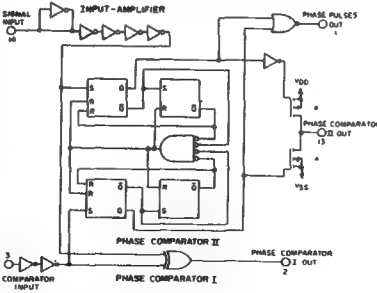
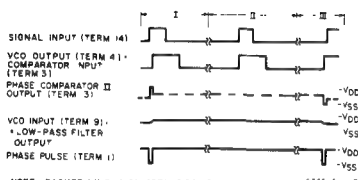
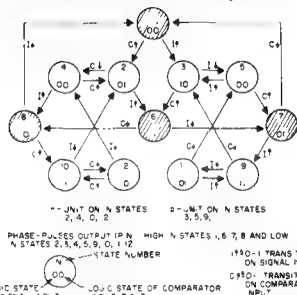

Fig. 3—Schematic of COS/MOS PLL phase-comparator section.
Fig. 6—Typical waveforms for COS/MOS phase-locked loop employing phase-comparator II in locked condition.
Fig. 7—State diagram of phase-comparator II.
Most PLL systems utilize a balanced mixer composed of well-controlled analog amplifiers for the phase-comparator section. Analog amplifiers with well-controlled gain characteristics cannot easily be realized using COS/MOS technology. Hence, the COS/MOS design shown in Fig. 3 employs digital-type phase comparators. Both phase comparators are driven by a common-input amplifier configuration composed of a bias stage and four inverting-amplifier stages. The phase-comparator signal input (terminal 14) can be direct-coupled provided the signal swing is within COS/MOS logic levels [logic 0 < 30% (VDD-VSS), logic 1 > 70% (VDD-VSS)]. For smaller input signal swings, the signal must be capacitively coupled to the self-biasing amplifier at the signal input to insure an over-driven digital signal into the phase comparators.
Phase-comparator II is an edge-controlled digital memory network. It consists of four flip-flop stages, control gating, and a three-state output circuit comprising p and n drivers having a common output node as shown in Fig. 3. When the p-MOS or n-MOS drivers are ON, they pull the output up to V_{DD} or down to V_{SS} , respectively. This type of phase comparator acts only on the positive edges of the signal- and comparator-input signals. The duty cycles of the signal and comparator inputs are not important since positive transitions control the PLL system utilizing this type of comparator. If the signal-input frequency is higher than the comparator-input frequency, the p-MOS output driver is maintained ON continuously. If the signal-input frequency is lower than the comparator-input frequency, the n-MOS output driver is maintained ON continuously. If the signal- and comparator-input frequencies are the same, but the signal input lags the comparator input in phase, the n-MOS output driver is maintained ON for a time corresponding to the phase difference. If the signal- and comparator-input frequencies are the same, but the signal input leads the comparator input in phase, the p-MOS output driver is maintained ON for time corresponding to the phase difference. Subsequently, the capacitor voltage of the low-pass filter connected to this type of phase comparator is adjusted until the signal and comparator input are equal in both phase and frequency. At this stable operating point, both p- and n-MOS output drivers remain OFF, and thus the phase-comparator output becomes an open circuit and holds the voltage on the capacitor of the low-pass filter constant. Moreover, the signal at the "phase pulses" output is at a high level, and can be used for indicating a locked condition. Thus, for phase-comparator II, no phase difference exists between signal and comparator input over the full VCO frequency range. Moreover, the power dissipation due to the low-pass filter is reduced when this type of phase comparator is used because both the p- and n-MOS output drivers are OFF for most of the signal-input cycle. It should be noted that the PLL lock range for this type of phase comparator is equal to the capture range, independent of the low-pass filter. With no signal present at the signal input, the VCO is adjusted to its lowest frequency for phase-comparator II. Fig. 6 shows typical waveforms for a COS/MOS PLL employing phase-comparator II in a locked condition.
Fig. 7 shows the state diagram for phase-comparator II; each circle represents a state of the comparator. The number at the top inside each circle represents the state of the comparator, while the logic state of the signal and comparator inputs, represented by a 0 or a 1, are given by the left and right numbers, respectively, at the bottom of each circle. The transitions from one state to another result from either a logic change on the signal input (I) or the comparator input (C). A positive transition and a negative transition are shown by an arrow pointing up or down, respectively. The state diagram assumes that only one transition on either the signal input or the comparator input occurs at any instant. States 3, 5, 9, and 11 represent the condition at the output of phase-comparator II when the p-MOS driver is ON, while states 2, 4, 10, and 12 determine the condition when the n-MOS driver is ON. States 1, 6, 7, and 8 represent the condition when the output of phase-comparator II is in its high impedance state; i.e., both p- and n-devices are OFF, and the phase-pulses output (terminal 1) is high. The condition at the phase-pulses output for all other states is low.
As an example of how one may use the state diagram shown in Fig. 7, consider the operation of phase-comparator II in the locked condition shown in Fig. 6. The waveforms shown in Fig. 6 are broken up into three sections: section I corresponds to the condition in which the signal input leads the comparator input in phase, while section II corresponds to a finite phase difference. Section III depicts the condition when the comparator input leads the signal input in phase. These three sections all correspond to a locked condition for the COS/MOS PLL; i.e., both signal- and comparator-input signals are of the same frequency but differ slightly in phase. Assume that both the signal inputs begin in the 0 state, and that phase-comparator II is initially in its high-impedance output condition (state 1), as shown in Figs. 7 and 6, respectively. The signal input makes a positive transition